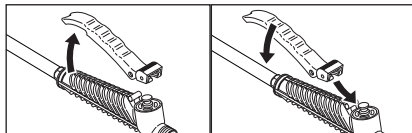

Figure 14. Remove / Replace Lever
1. Lift up on the rear of the lever until it snaps off of the pivot pins. See Figure 14.
6. To replace the lever, position the forked end under the head of the plunger and push down on the rear of the handle until it snaps over the pivot pins. See Figure 14.